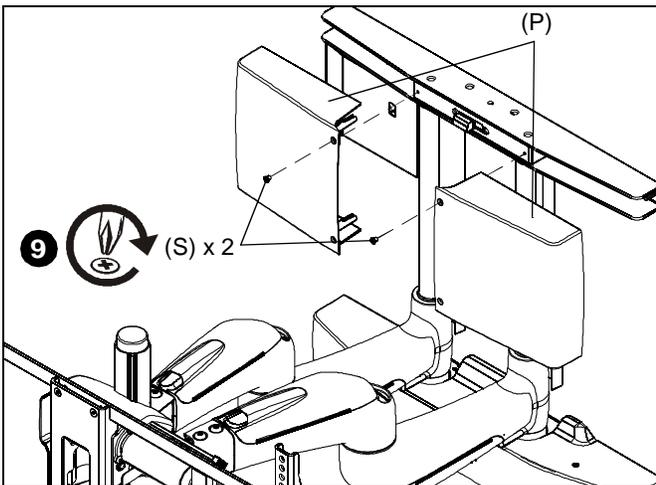

Figure 35
- Add plastic covers (P) to PXR, fastening with two 8-32 x 1/4" Phillips flat head screws (S). (See Figure 35)